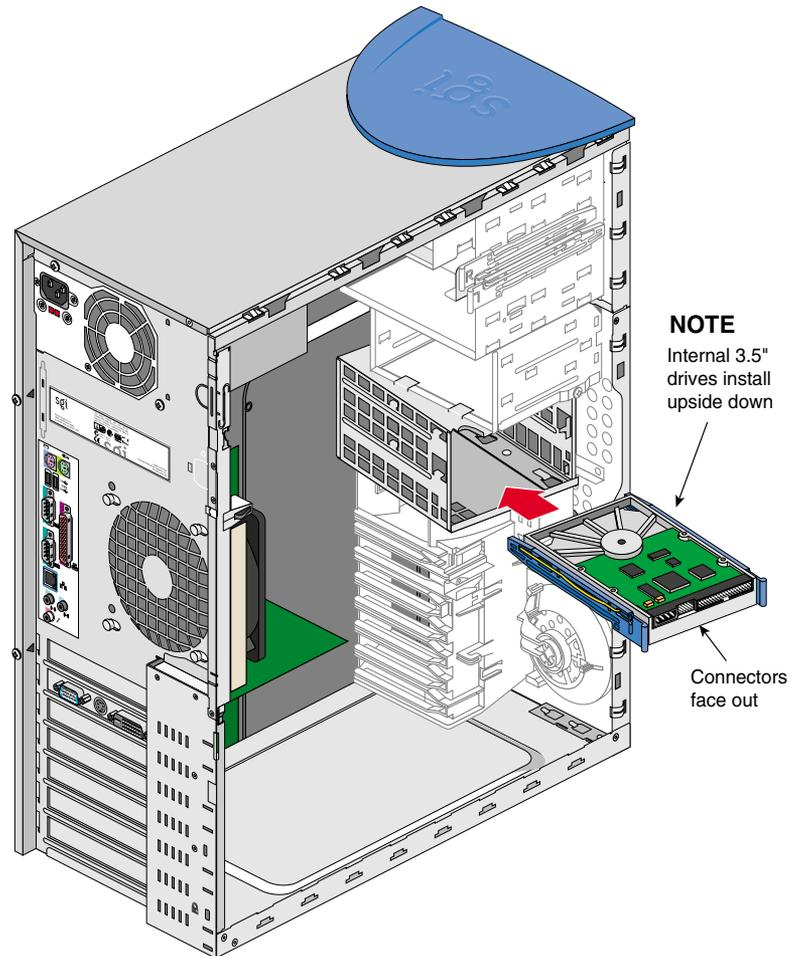

Figure 2-9 Mounting Drives in the Internal Drive Cage
- To mount a 3.5-inch drive in the internal drive cage, place the drive upside down in the selected drive bay and slide the drive into the bay until the rails snap into place. Figure 2-9 shows how to install the drive correctly.